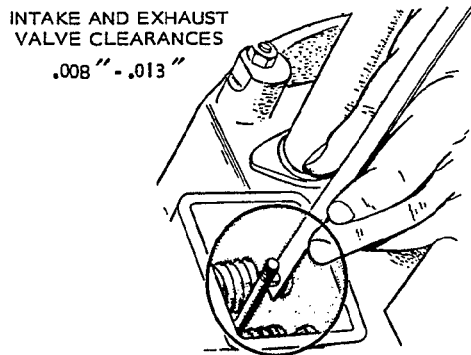

FIGURE 24. VALVE CLEARANCE
5. For the intake valve, a .007-inch thickness gauge should pass freely between valve stem and tappet; a thicker .009-inch gauge should not (Figure 24).